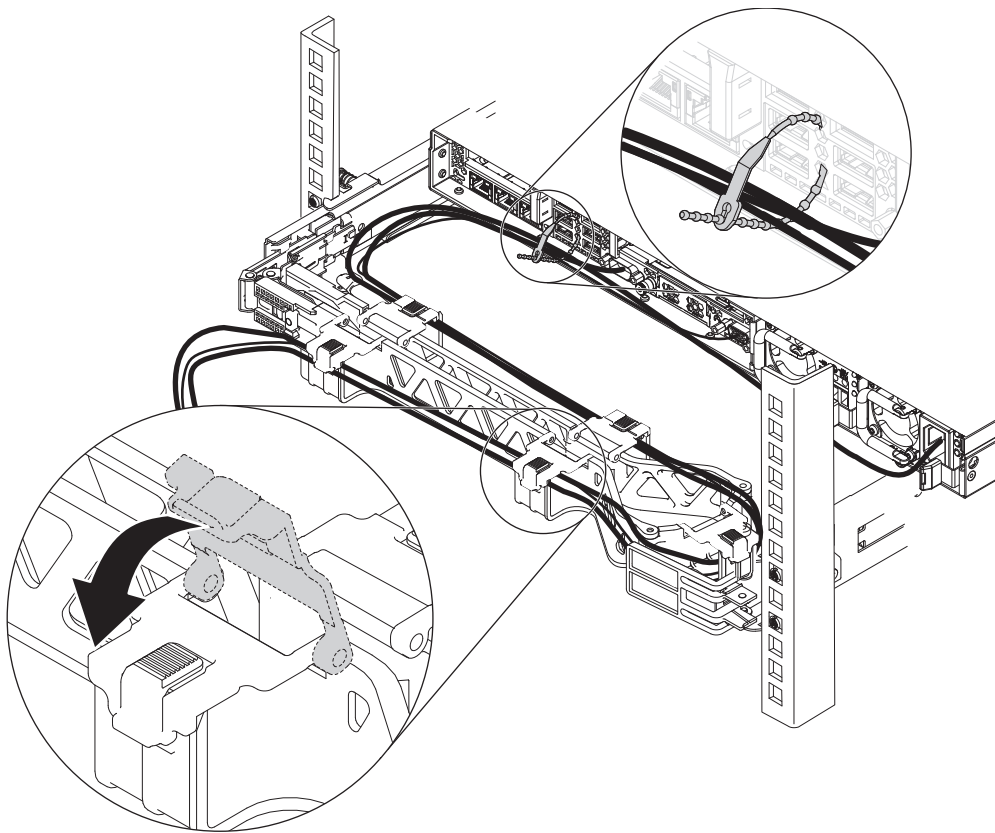

Figure 9. Disconnecting the cables and ties
4. Disconnect the routed cables, as shown in Figure 9 on page 18.